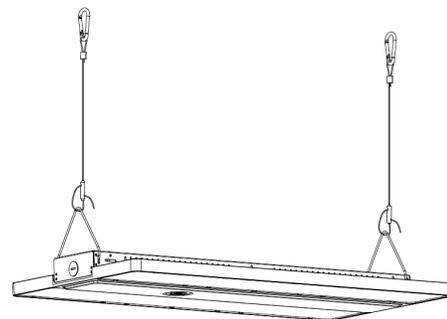

Fig. 2
4. After securely hanging the fixture, select a suitable wiring knock out and connect the wires as per the wiring diagram and local code. (Fig. 2)